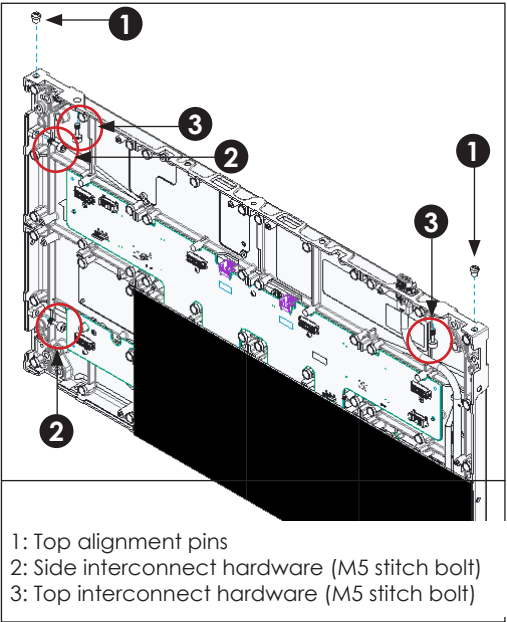

Figure 2: Prepare Panels
- 2. Remove the top alignment pins from the top row of panels. Remove the M5 stitch bolt hardware on the top row and left-most side of the display. This hardware must be removed before final tile installation. Refer to **Figure 2**.